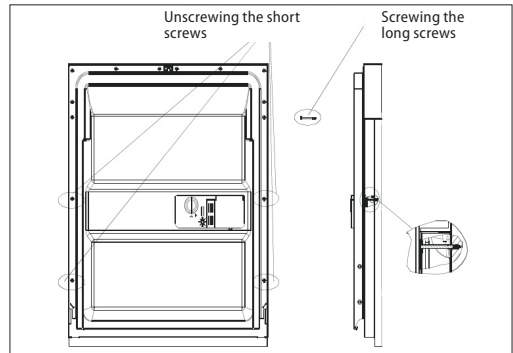

Fig. 14b
- Fasten the cover plate using the screws (Fig. 14b).
- Unscrew the four short screws from the inner side of the door (Fig. 14b).
- Screw the four long screws instead of the short ones. Now the cover plate is fastened to the appliance door (Fig. 14b).